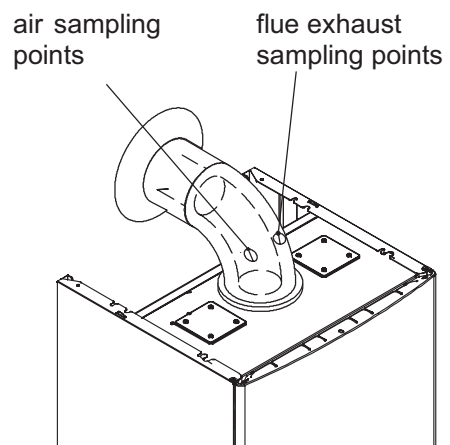

Figure 11.3
- 11 Fit the probe of the flue analyser in the flue exhaust sampling point located on the exhaust pipes of the boiler (Figure 11.3).